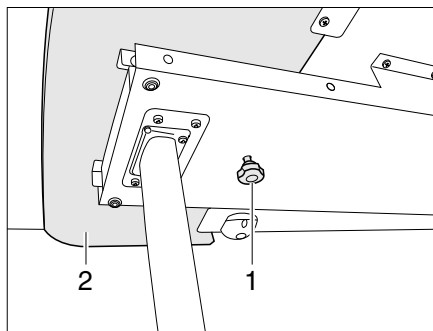
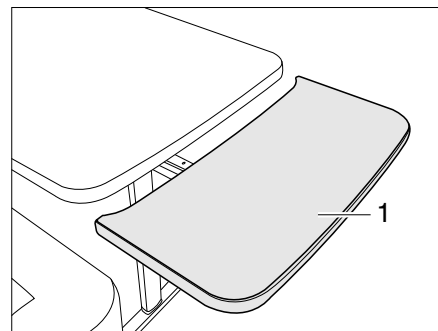

Fig. 99 Lock for table-top extension
Fig. 100 Table-top extension
- Loosen knurled screw (Fig. 99,1).
- Pull out the table-top extension (Fig. 99,2) as far as possible (Fig. 100).
- Guide table-top extension (Fig. 100,1) upwards in a circular movement. The table-top extension lies flush with the table-top.
- Pull table-top extension (Fig. 100,1) away from the table-top as far as it will go and press downwards against the resistance of the retaining springs. The table-top extension moves downwards in a circular movement (Fig. 100).
- Tighten knurled screw (Fig. 99,1).